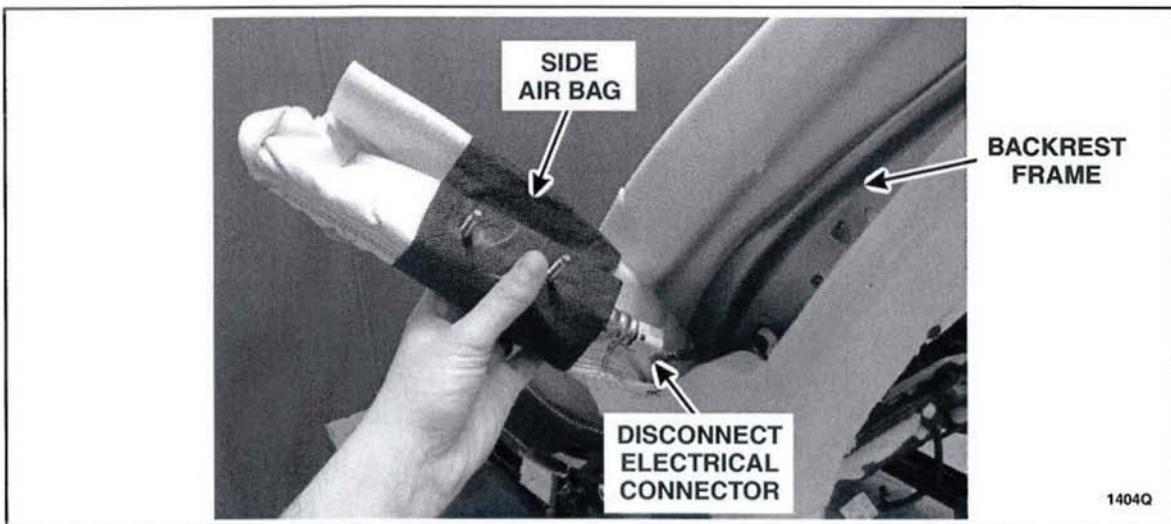

FIGURE 7
9. Position the side air bag away from the backrest frame and disconnect the electrical connector. Remove the side air bag. See Figure 7.